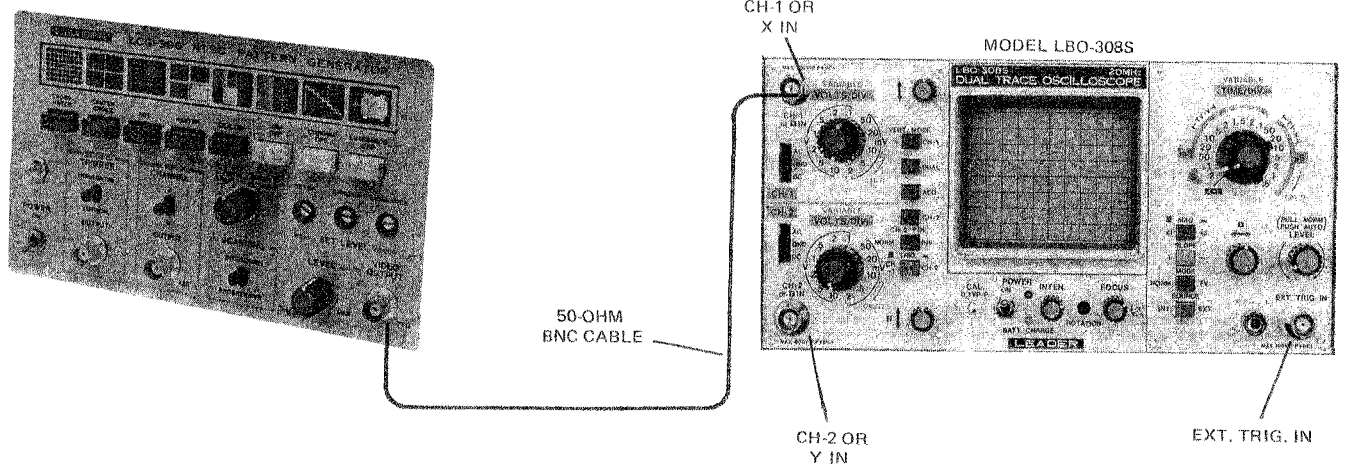

Figure 3-6. TV Sync Triggering Test Setup
- a. Connect test equipment as shown in Figure 3-6.